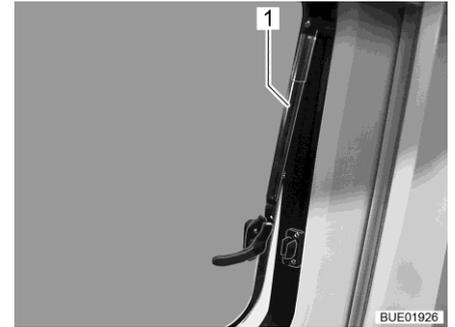

Fig. 22 Hinged window with automatic hinge
- Open hinged window half up to the required position. Allow the hinged window to engage automatically with the automatic hinge (Fig. 22,1). The hinged window remains locked in the required position.